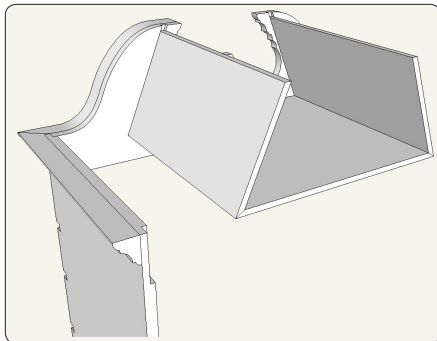

Figure 19. Make the inner enclosure pieces.
Step 6 Use the Line and Push/Pull Tools to create the three inner enclosure pieces, as shown in Figure 19.